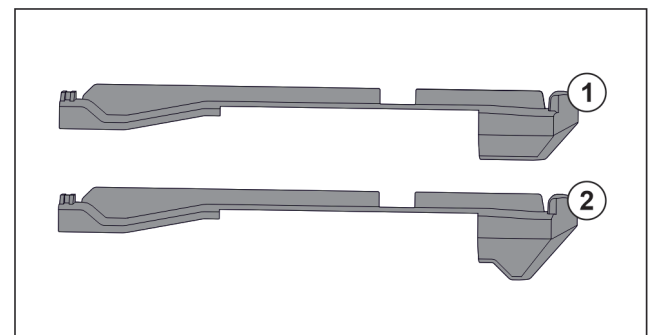

Fig. 62 Comparing attachments
There are two different attachments in the appliance. The attachment above the lowest drawer Fig. 62 (2) has a three-cornered edge. All other attachments Fig. 62 (1) have a straight edge.
- ▶ Fit attachment Fig. 62 (2) with the three-cornered edge above the lowest drawer.
- ▶ Fit attachment Fig. 62 (1) with straight edge in all other positions.